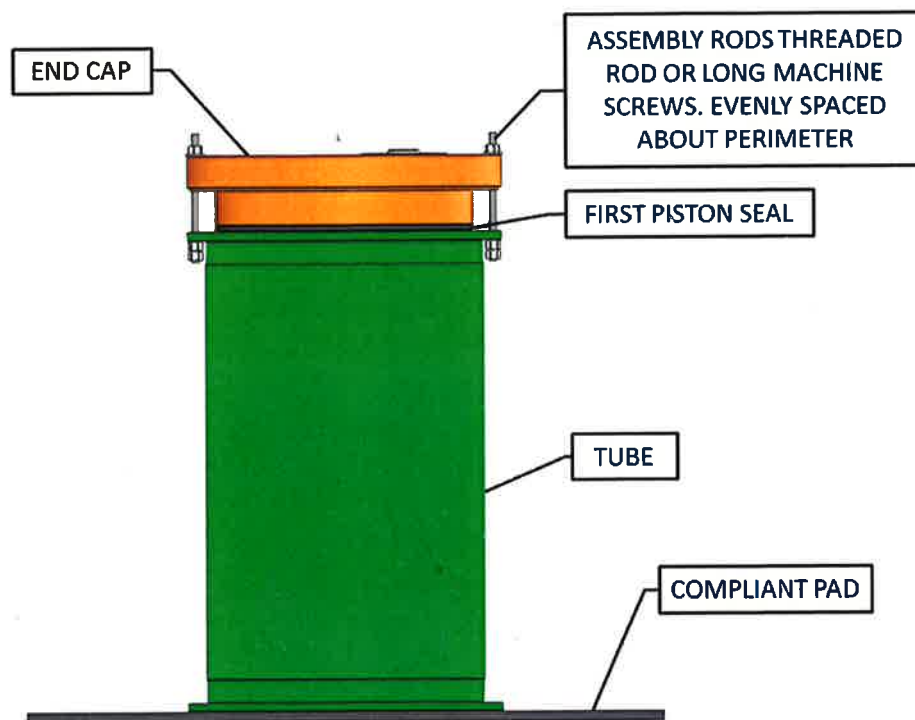

Figure 4: End Cap Installation Using Assembly Rods
- c. Install three or more assembly rods evenly spaced around the perimeter of the end cap as shown in figure 4. If assembly rods (jacking screws) were not provided, threaded rod or extra-long machine screws may be used. See item 25 in the bill of materials (appendix A) for thread definition and minimum length requirements. Be sure to protect the housing surface from damage where the threaded jacking screw/nut bears on it by using flat (preferably nylon) washers. Tighten all assembly